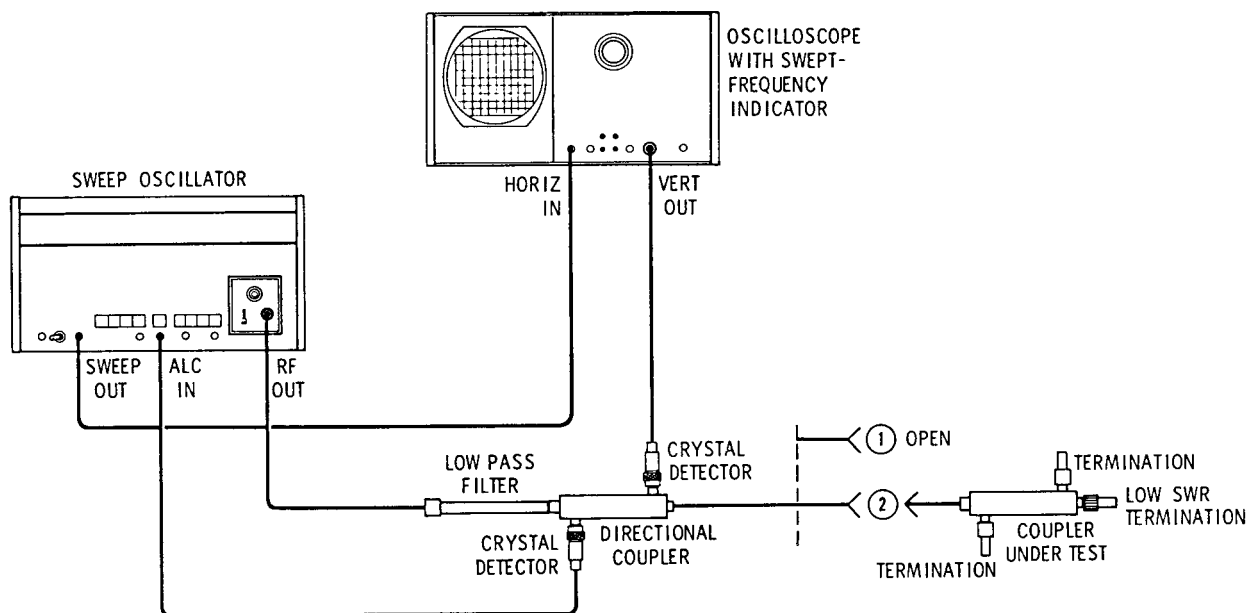

Figure 8 *Swept-Frequency Primary-Line SWR Test Setup*
To test a 775D use another good 775D as the directional coupler in Figure 8.
Description Refer to Figure 8 for test setup and for test equipment.
- Terminations (3)
1. Connect the equipment as at (1) in Figure 8.
- a. Connect the dual-directional coupler under test as shown at (2) in Figure 8.